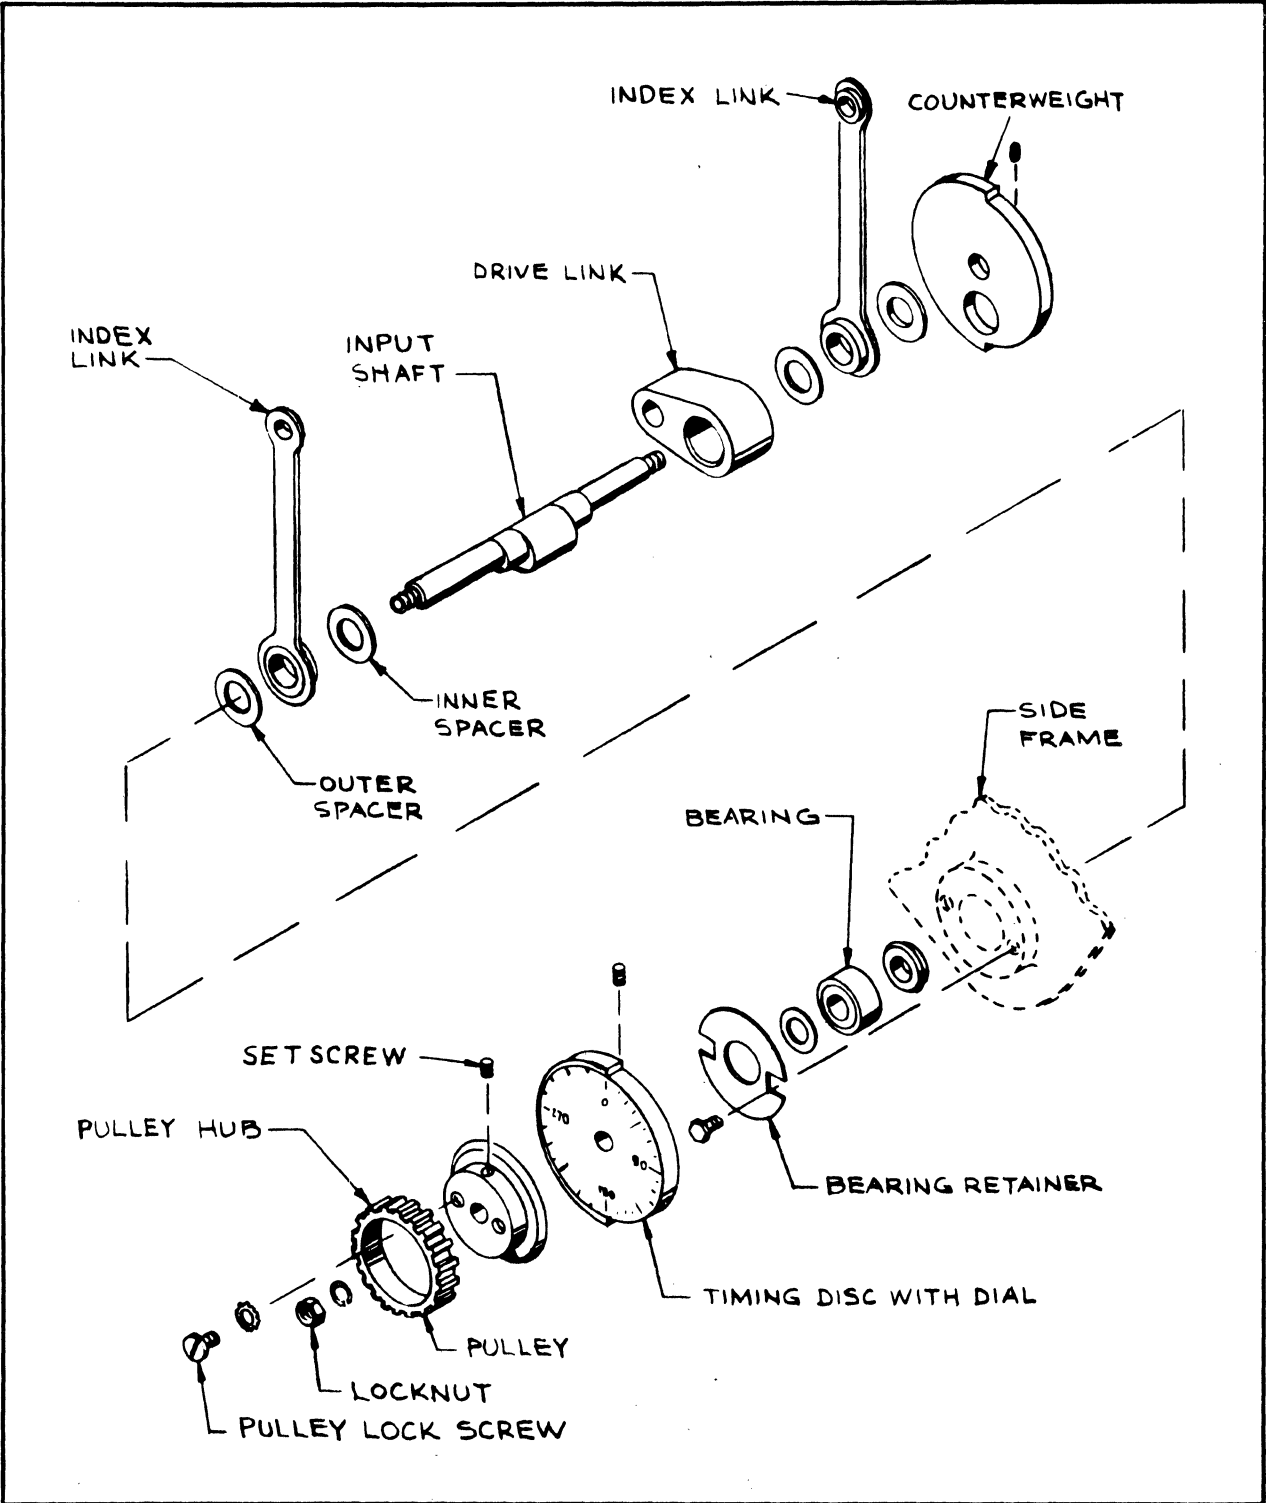
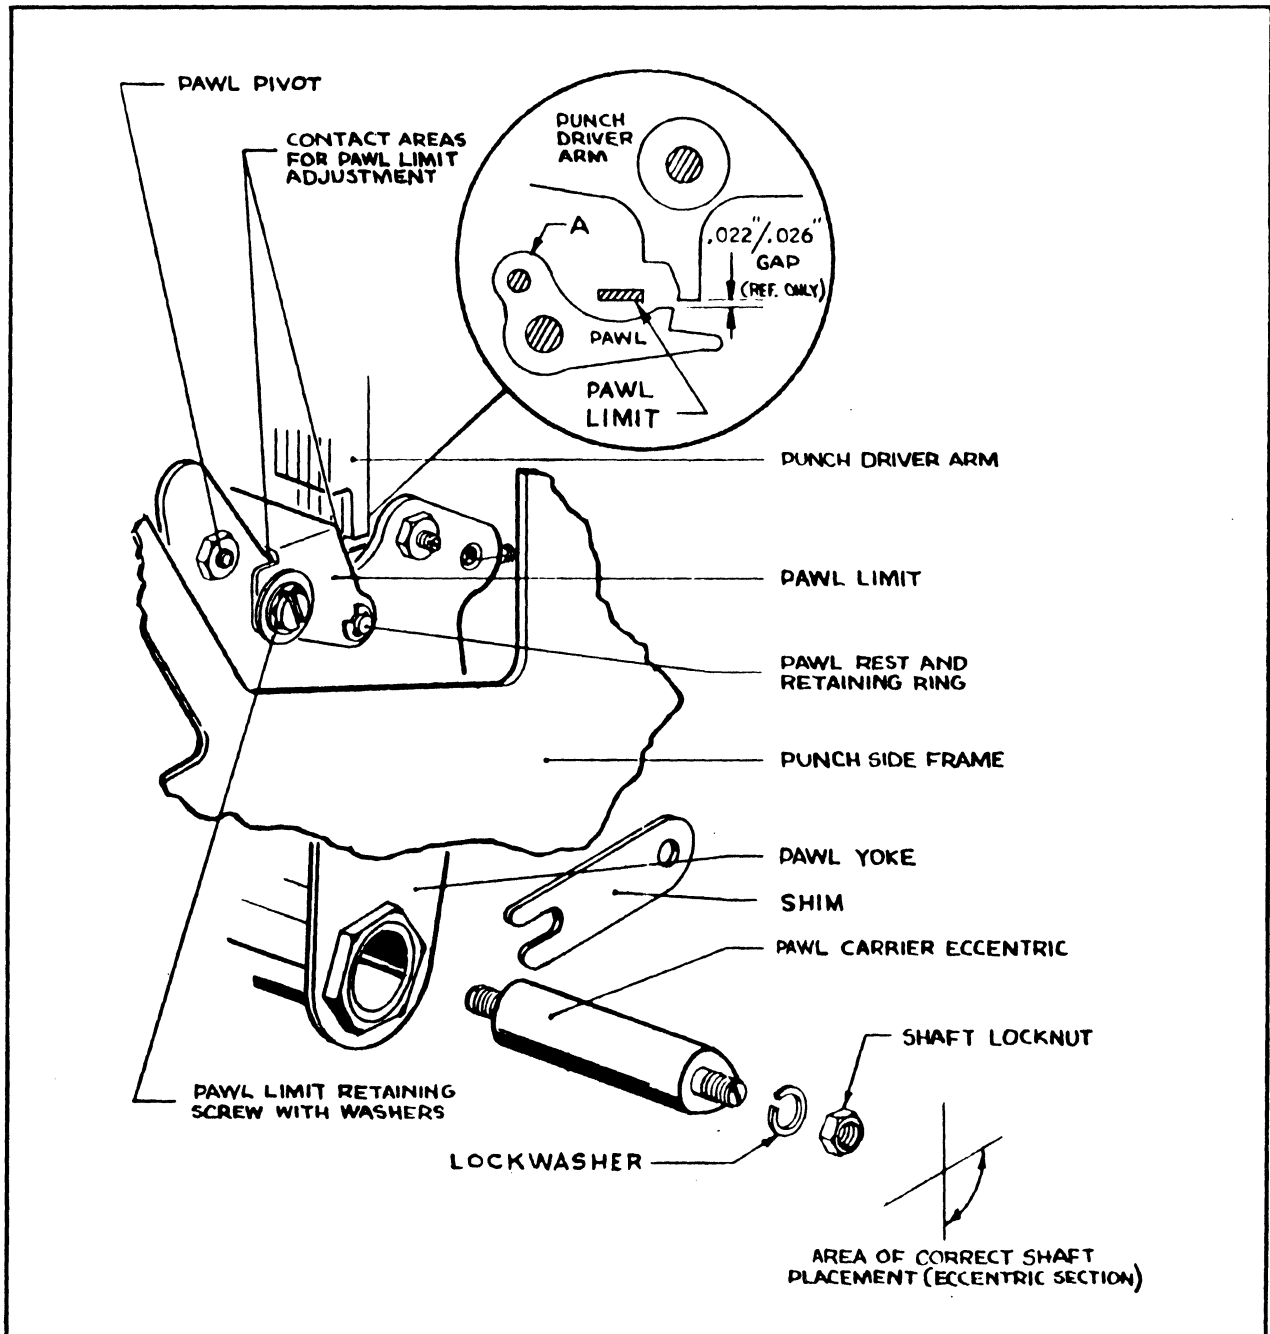
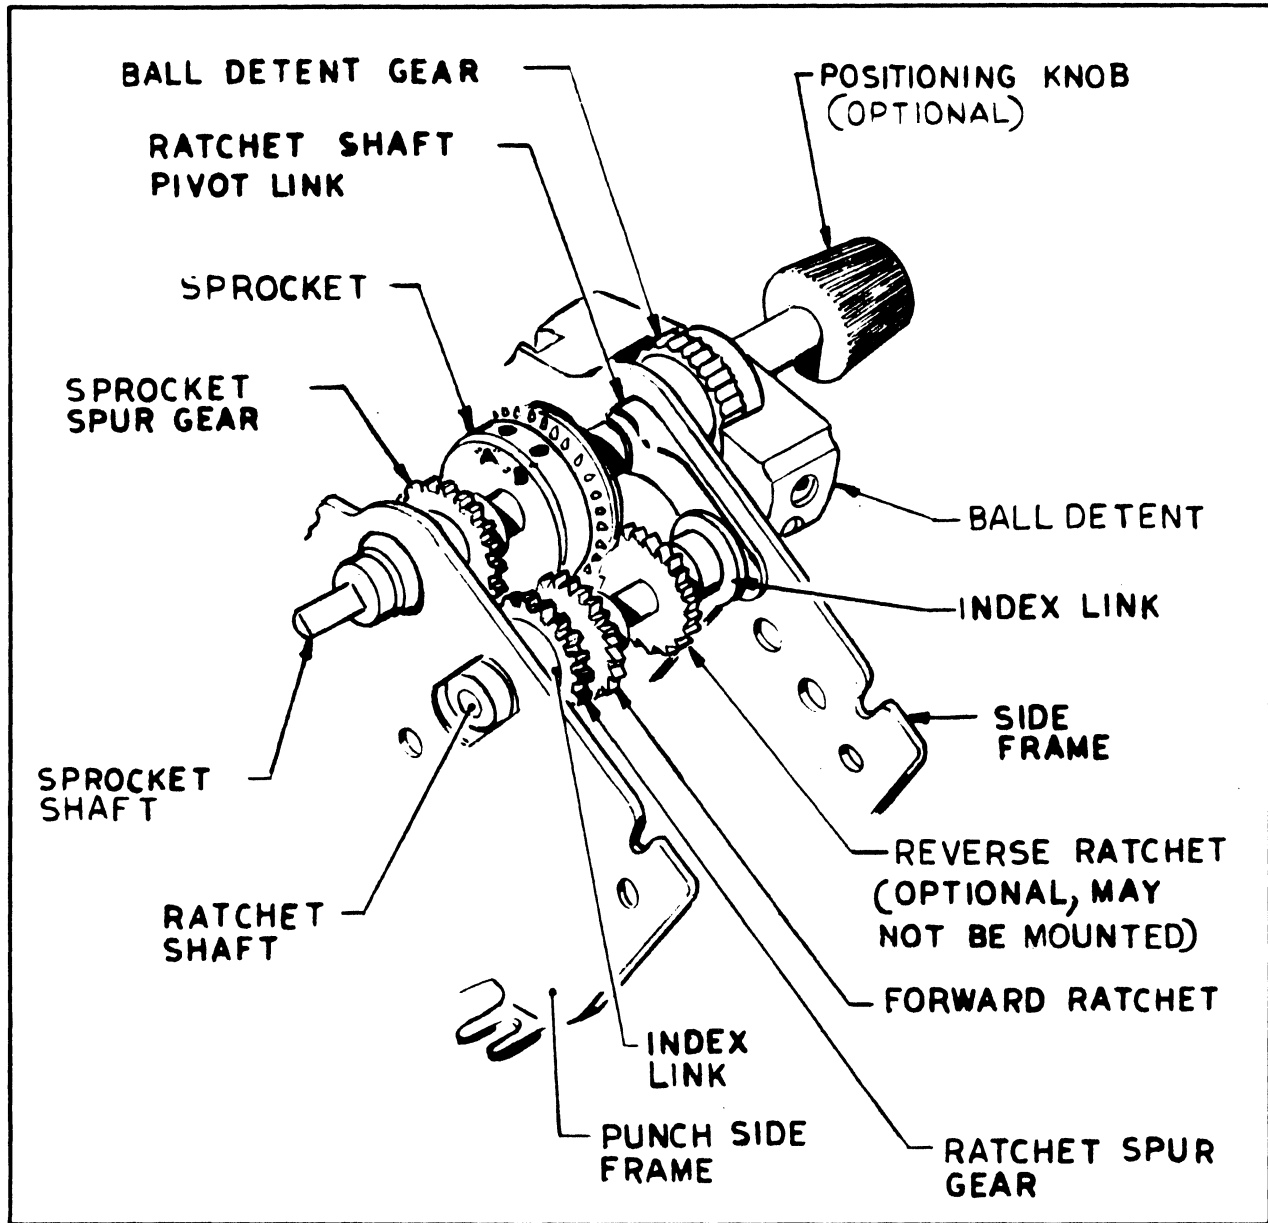

Figure 3.3 Input Shaft and Components
Figure 3.6 Pawl Adjustment and Pawl Limit
Figure 3.10 Feed Mechanism
4. Use the result of example 2 to set the dial so that position 276 degrees lines up with the center of the coil pole piece. Hold the shaft firmly in place and loosen the nut at the timing disc side, see Figure 3.3, and the timing disc setscrew. This setscrew is located in the hub of the disc.
The input shaft rotates continuously while the punch is in operation. The shaft and pulley which is attached to one end of the shaft is driven with a gear belt from a separately-mounted motor. The shaft is eccentric, therefore imparting a reciprocating motion to the drive link and the index link assemblies shown in Figure 3.3. These items continue to move back and forth, raising and lowering the feed mechanism, Figure 3.10, and causing the pawl yoke, Figure 3.6, to swing back and forth about its eccentric shaft.
1. Turn the input shaft to approximately 40 degrees. Manually press pawls at point A; see insert of Figure 3.6. This forces pawls to rise.
The adjustable eccentric shaft shown in Figure 3.6 is the pawl yoke pivot point. The punch drive adjustment must position this pivot point in such a way that a raised pawl moves the corresponding punch driver arm sufficiently far to lift the punch pin through the punch guide plate and into the upper die plate.
1. Remove the chad tube. Remove the ball detent mounting screws, see Figure 3.10, and remove the detent. Be careful that balls do not fall out. They are retained only by the adhesiveness of the grease within the housing.
one time. The sprocket, Figure 3.10, is mounted on the sprocket shaft, which is held in place on one side by the ball detent gear and, on the other side, by a collar. The shaft also supports the spur gear and the optional positioning knob.
time (zero degrees), the lower portion of the solenoid armature is pulled against the solenoid core and the interposer portion above the armature pivot point, see Figure 3.10, moves toward the ratchet gear.
1. Measure zoning. If an adjustment is required, loosen screws A and B, see Figure 3.10, and move the sprocket toward or away from the guide edge to obtain a correct spacing of 0.371 ± 0.002 inch to the outside of the sprocket teeth.
The ball detent arrests the rotation of the sprocket shaft. It also holds the shaft fixed during upward movement of the index links. The detent is shown in Figure 3.10. It consists of an injection-molded plastic part into which six stainless steel balls have been inserted, with individual springs and setscrews. Setscrews are adjusted to provide enough spring tension so that contact between balls and detent gear keeps the shaft normally in a fixed position, except when operation calls for rotation of the sprocket shaft.